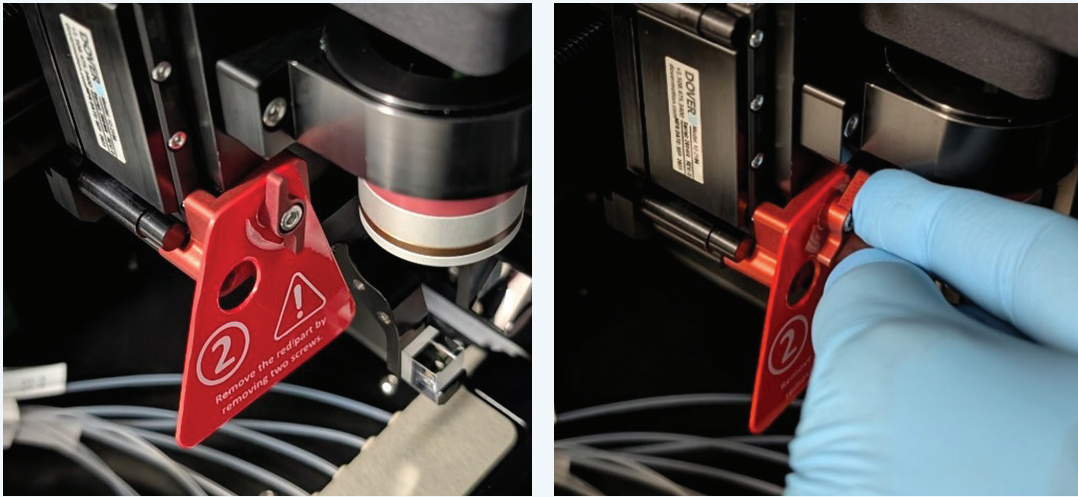

Figure 12. LeviCell EOS focus stage safety lock, smaller thumbscrew and lock.
- b. Unscrew the second smaller thumbscrew until it is loose, as seen in Figure 12.